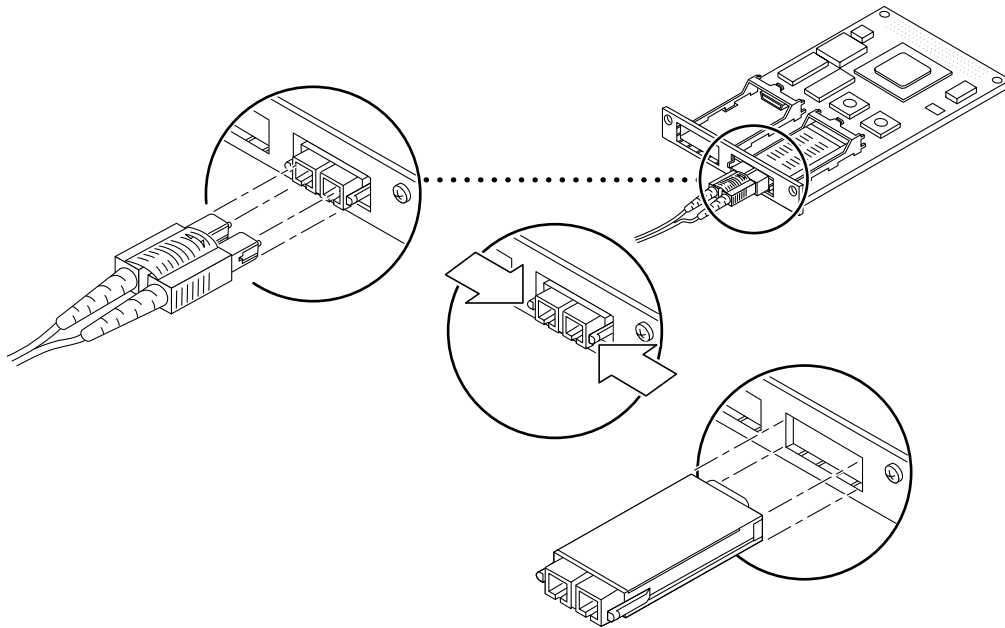
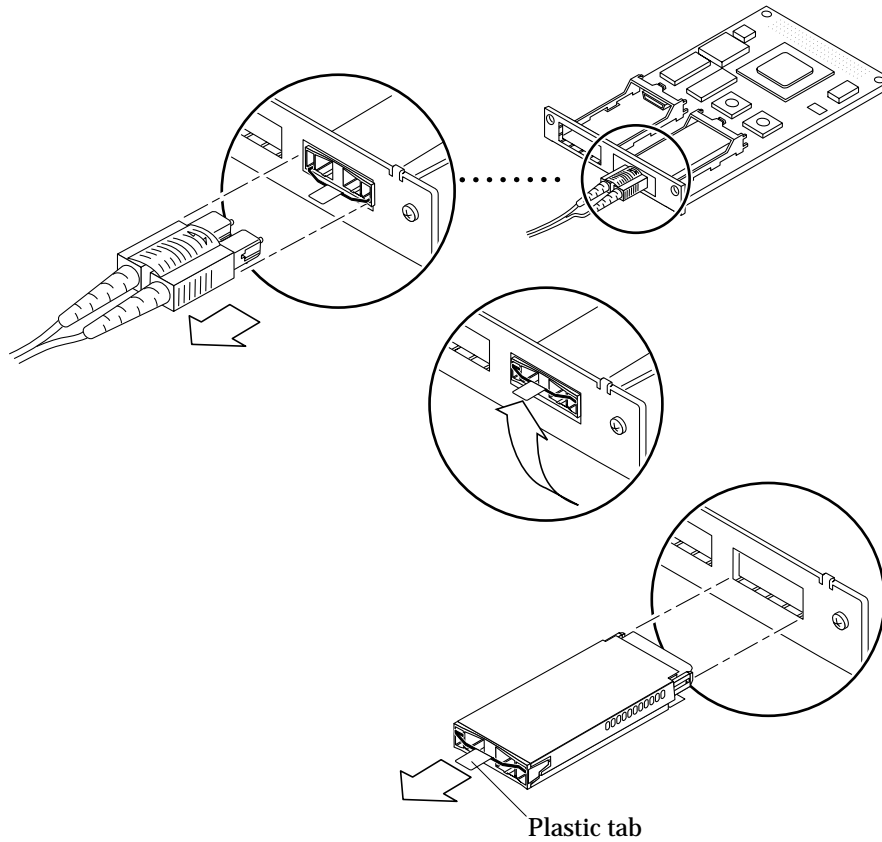

FIGURE 2-3 Removing a GBIC That Does Not Have a Bail
FIGURE 2-4 Removing a GBIC That Has a Bail
1. Disconnect the fiber optic cable from the GBIC (FIGURE 2-3 or FIGURE 2-4).